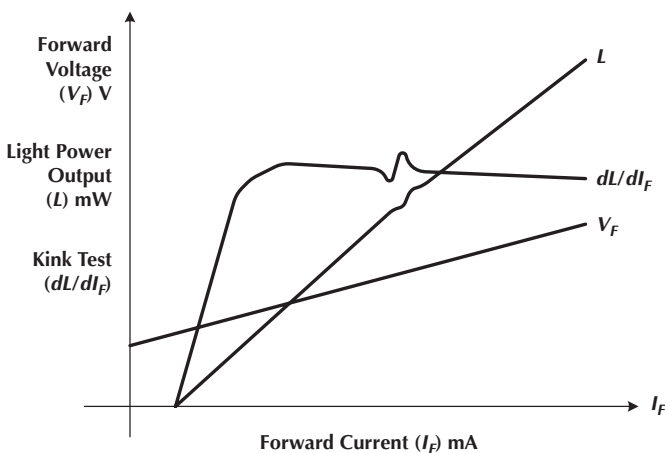

Figure 3. Typical Suite of L - I - V Curves of a Defective Laser Diode
The kink test verifies the proportionality of the relationship between the drive current (I_F) and the light output (L), as depicted in **Figure 3**. In non-defective lasers, the relationship between the drive current (I_F) and the light output power (L) is linear near the nominal operating range. If the relationship is truly linear over the tested range, the first derivative of the curve will be a nearly horizontal line, graphed as dL/dI_F . The first derivative will amplify any bumps or “kinks” in the L - I_F curve. If the curve has any significant “kinks” in it (i.e., is not smooth), the laser is considered defective. In other words, if the VCSEL is operated at the I_F value corresponding to the “kink,” the light output will not be proportional. The maximum value of the second derivative of the L vs. I_F curve can be used to calculate the threshold current. Threshold current is the minimum current required by a laser to begin “lasing” or outputting significant light.